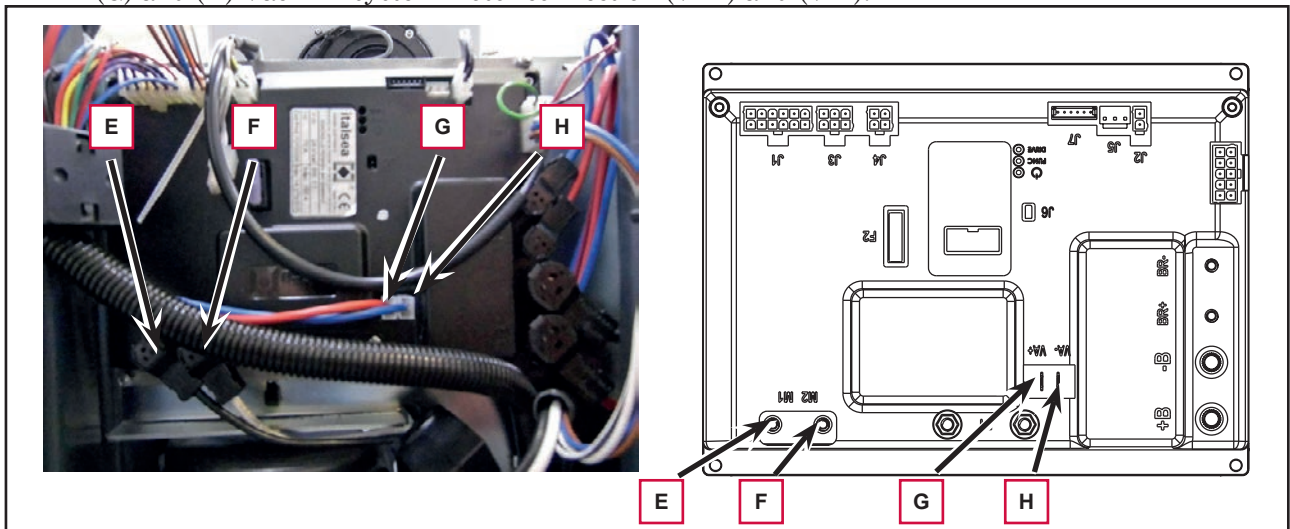

Figure 12
7. Disconnect the following connections (Figure 12):
- (E) and (F) Drive system motor connection (M1) and (M2).
- (G) and (H) Vacuum system motor connection (VA+) and (VA-).